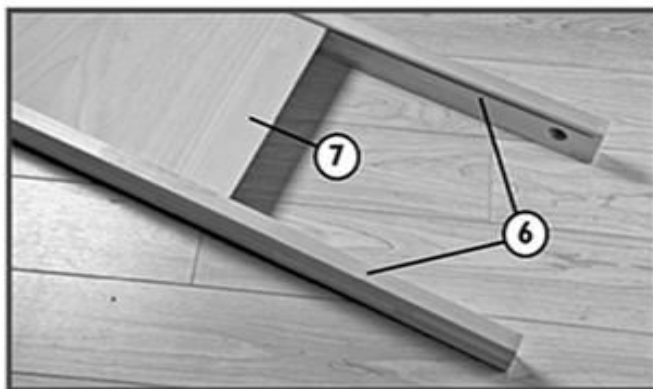

Fig. 2
- Slide the Center Shelf (7) into the grooves of both Middle Stretchers (6) as shown in **Fig. 2**.